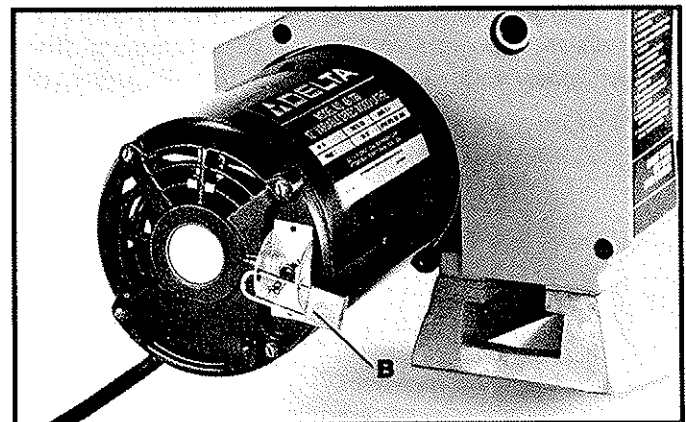

Fig. 16
IMPORTANT: We suggest that when the lathe is not in use the switch be locked in the “OFF” position using a padlock (B) Fig. 16, through the holes in the switch bracket, as shown.